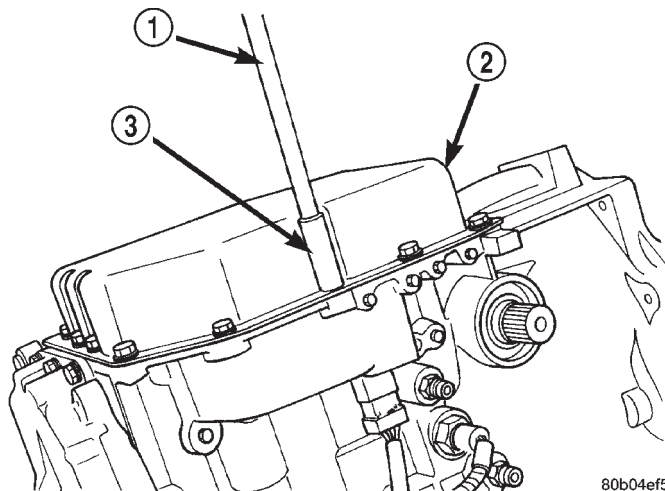

Fig. 95 Transaxle Oil Pan Bolts
- (1) Disconnect the TRS wiring connector. The solenoid wiring connector can remain attached to the case.
- (2) Disconnect the shift cable from the shift lever (at the transaxle).
- (3) Move the shift lever clockwise as far as it will go. This should be one position past the L position. Then remove the shift lever.
- (4) Remove transaxle pan bolts (Fig. 95).
(4) Make sure oil pan and case rail are clean and dry. Install an 1/8" bead of RTV to the transaxle oil pan and install to case. Tighten bolts (Fig. 95) to 23 N·m (17 ft. lbs.).